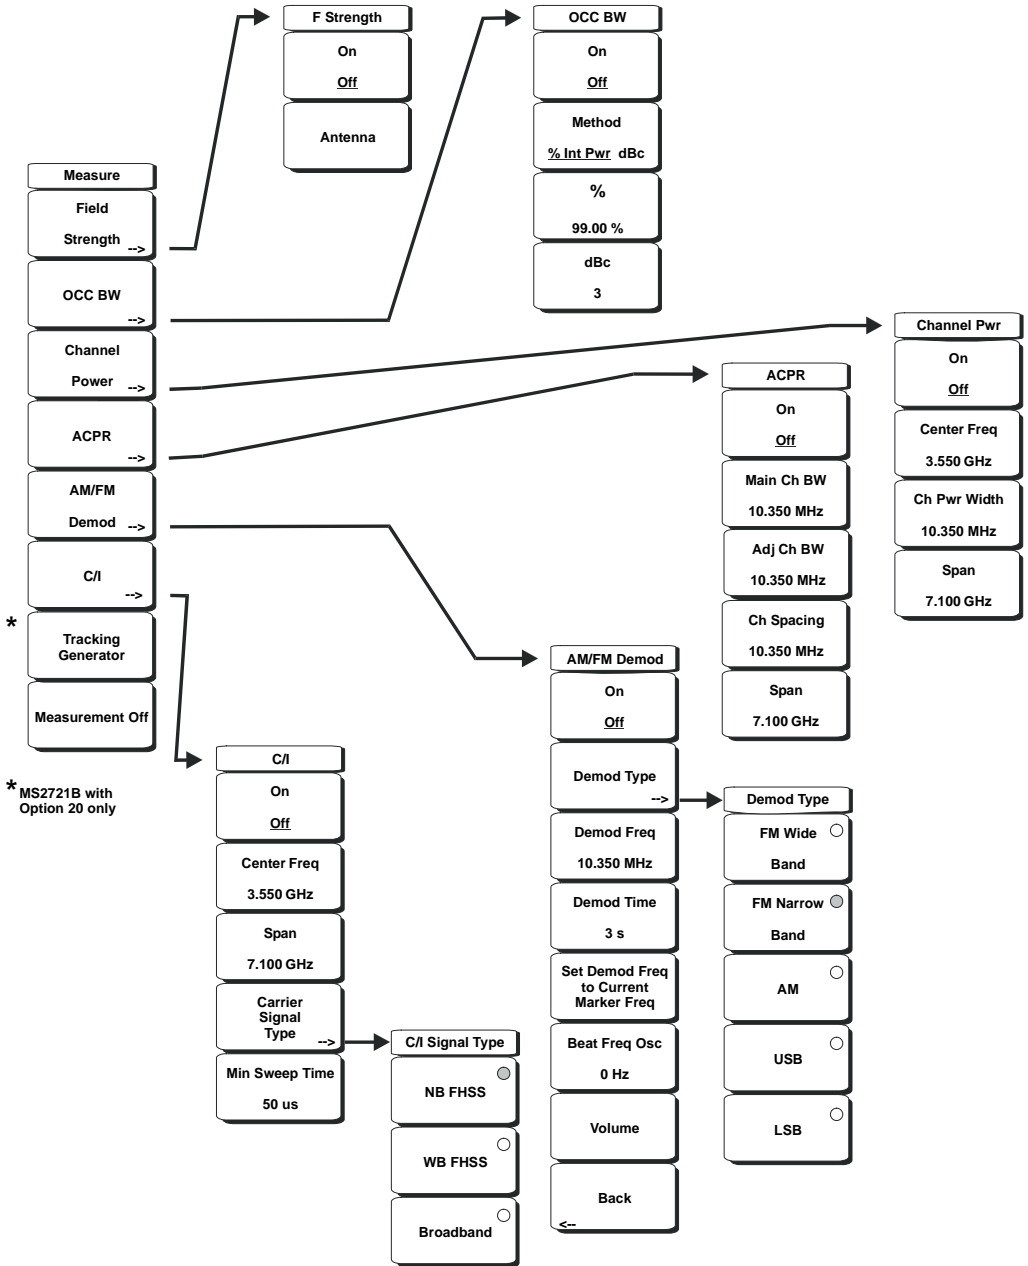

Figure 3-9. Measure Menu Soft Keys
To access the functions under the Measure menu, select the **Shift** key, then the **Measure** (4) key. The Measure menu soft keys are shown in Figure 3-9.